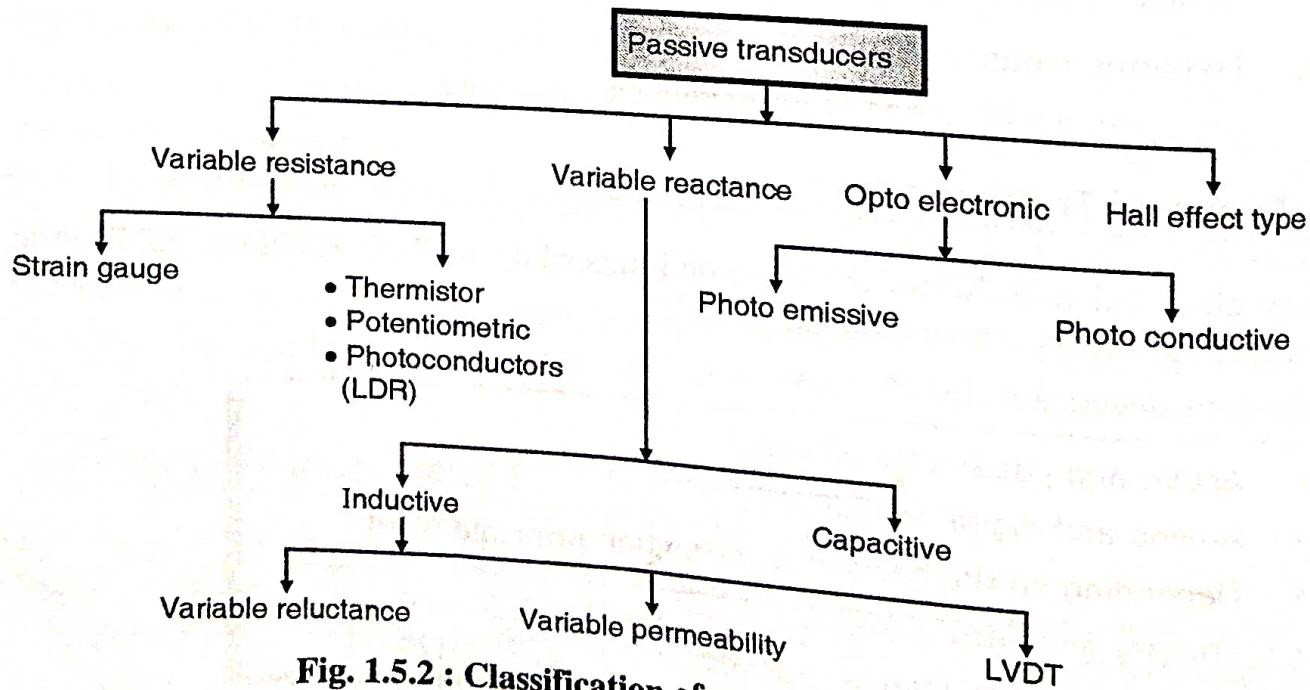

Fig. 1.5.2 : Classification of passive transducers
- Passive transducers are further subdivided as shown in Fig. 1.5.2.